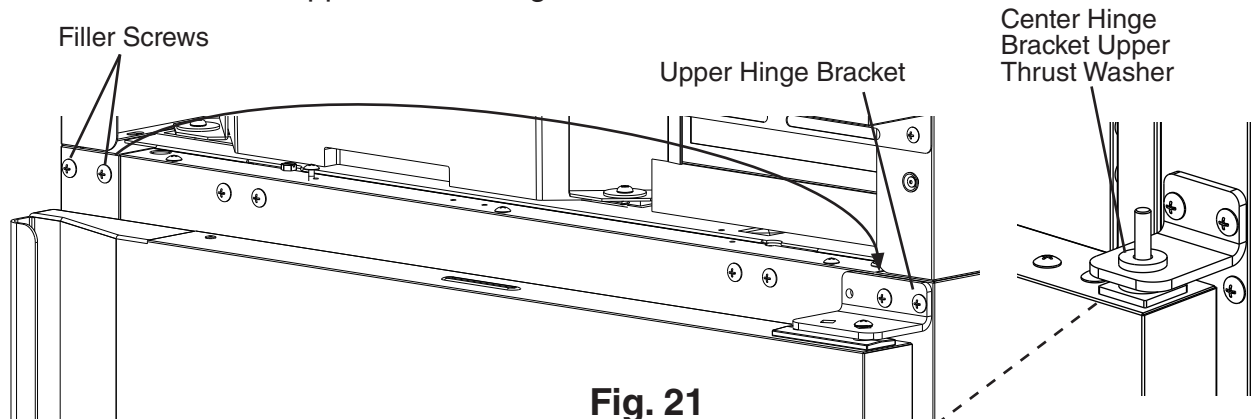

Fig. 21
- 3) While maintaining a hold on the upper door, remove the upper hinge bracket then lift the door off the center hinge bracket. See Fig. 21. Retain the upper center hinge bracket thrust-washer for opposite side hinge bracket installation.